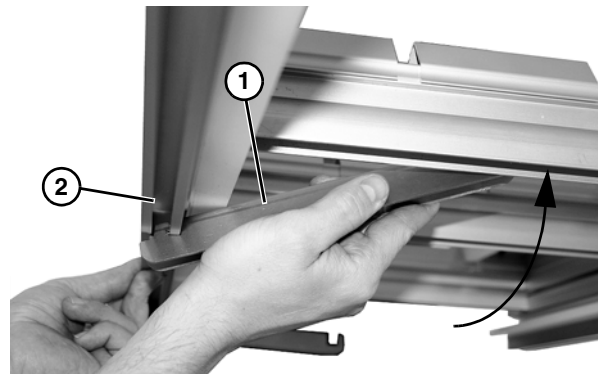

Figure 33
2. If necessary, rotate upward and remove bracket (**Figure 33, item 1**), from frame channel (**Figure 33, item 2**).